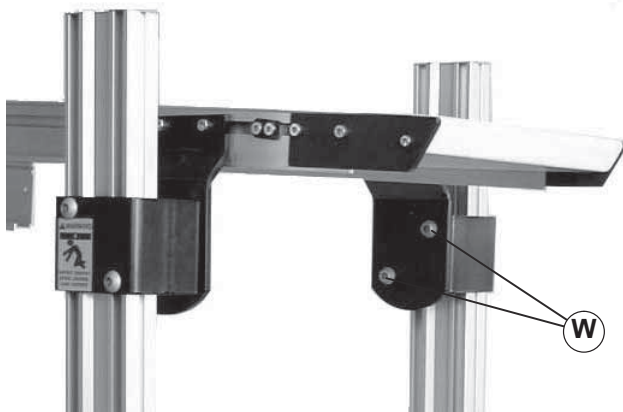

Figure 14
1. Loosen two flange socket head screws (Figure 14, item W) on both sides of stand.
<p>Failure to secure screws (Figure 14, item W) may cause conveyor sections to drop down, causing severe injury.</p> <p>TIGHTEN SCREWS (W) AFTER ADJUSTMENT.</p>
3. Secure flange socket screws (Figure 14, item W) to 24 ft-lb (18 Nm).